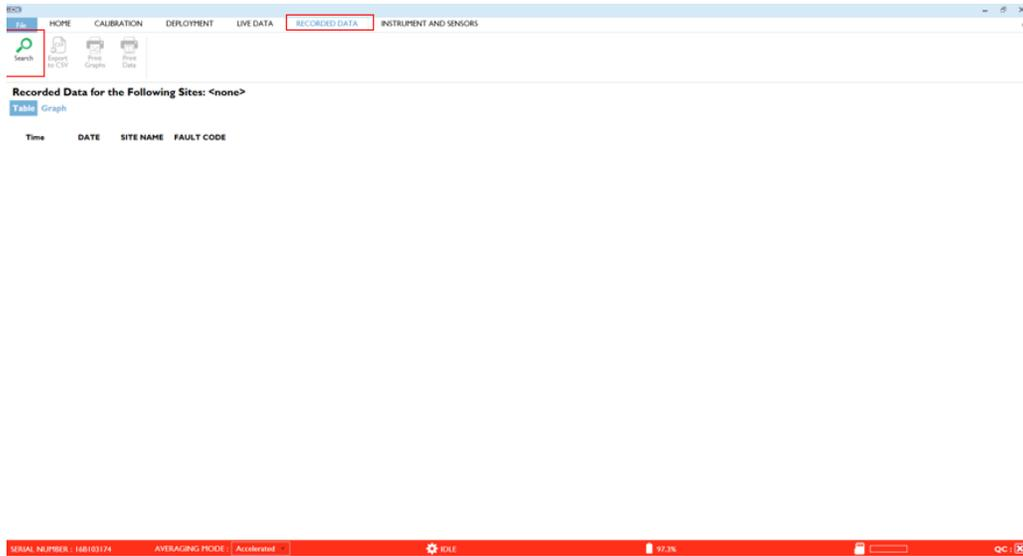

Figure 6. Open Recorded Data tab
- 1. In the KorEXO software, select the **Recorded Data** tab (Figure 6).
- 2. Select **Search** (Figure 6) and select the most recent deployment.